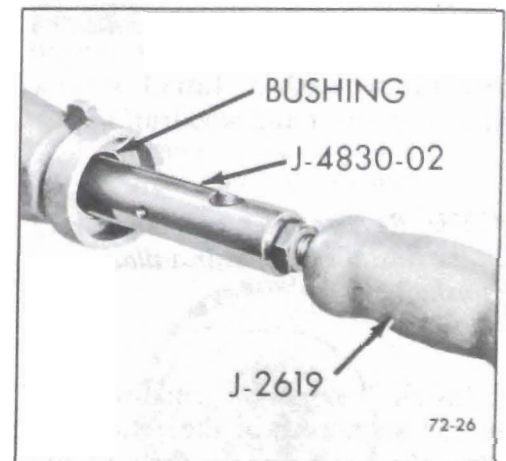

Figure 72-26 - Removing Rear Bearing Retainer Bushing
2. Using J-2619 Slide Hammer and J-4830-02 Puller, remove rear bearing retainer bushing. See Figure 72-26.